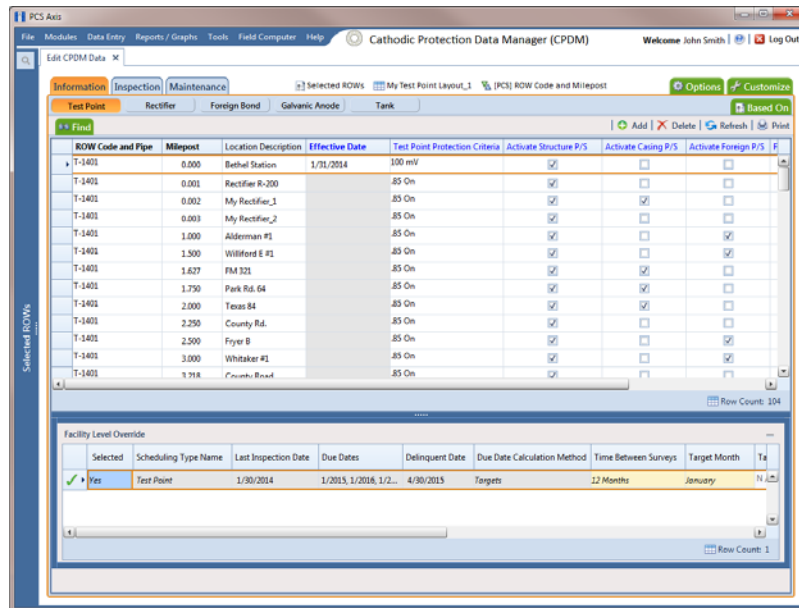

Figure 7-8. Add Record
- e Provide other facility data in the grid as needed, such as *Permanent Comments* (Figure 7-8, page 221).